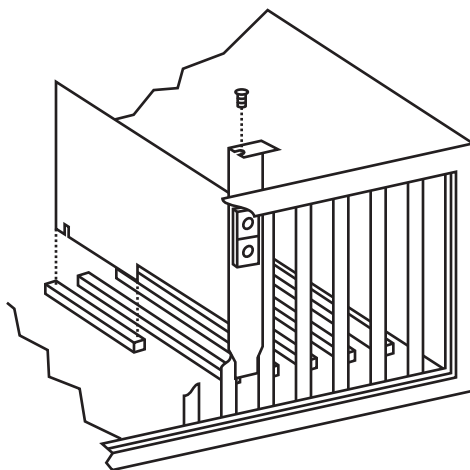

Figure 3-3. Place adapter in the PCI Express slot.
5. Applying even pressure at both corners of the card, push the fiber card until it is firmly seated in the PCI Express slot. Make sure the card is securely seated. See Figure 3-3.